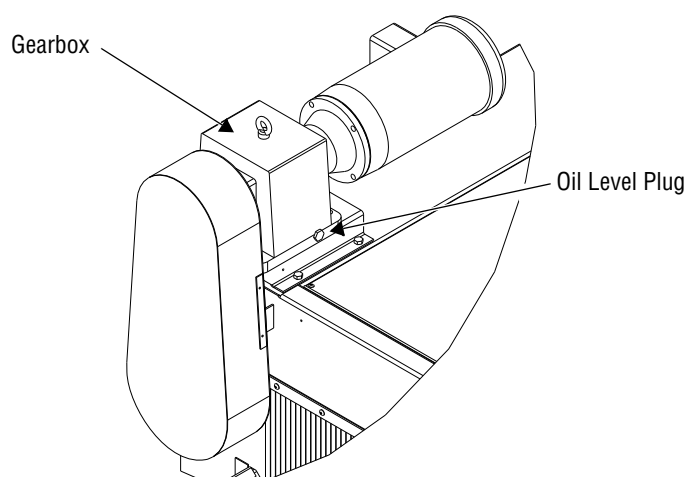

Figure 5-5. Verify Gearbox Oil Level
3. On right side of gearbox, loosen gearbox top oil level plug. Do not remove plug (see Figure 5-5).